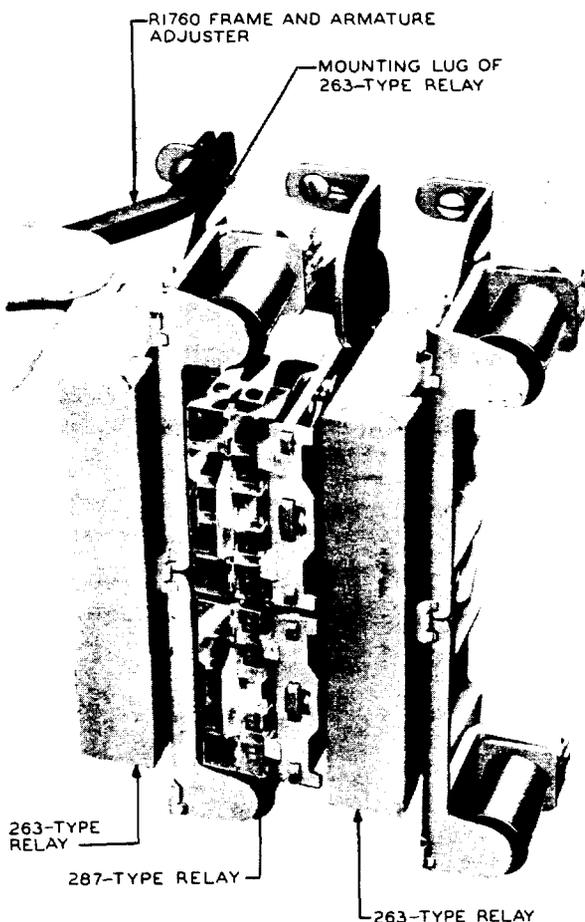

Fig. 1 - Method of Adjusting Mounting Lug
1.02 This section is reissued to revise the relay mounting information and Fig. 1, to add information for splicing multiple strap wires to 287-type relays, to omit information covering length of sleeving on skimmers, and to add Fig. 3.
4.03 When a 287- or 288-type relay is to be mounted in place of a 263 or 264 type, the clearance between the winding terminal test lugs of the 287- or 288-type relay and the adjacent relay at the right should be minimum 1/32 inch. The clearance between the cover of the 287- or 288-type relay and the relay at the left should be sufficient to permit removal of the cover. This clearance should also be sufficient to prevent the cover of the 287- or 288-type relay from interfering with the operation of the armature of the relay at the left. The brackets of 287- and 288-type relays have elongated mounting holes for positioning the relay with respect to adjacent relays. If the minimum clearances cannot be obtained by positioning the new relay, it will be necessary to bend the mounting lugs of one or both adjacent 263- or 264-type relays. To do this, apply the R-1760 frame and armature adjuster to the mounting lug of the adjacent relay as shown in Fig. 1. Adjust the top and bottom mounting lugs as required. Check the clearances between other relays which may have been affected and make additional adjustments as required.